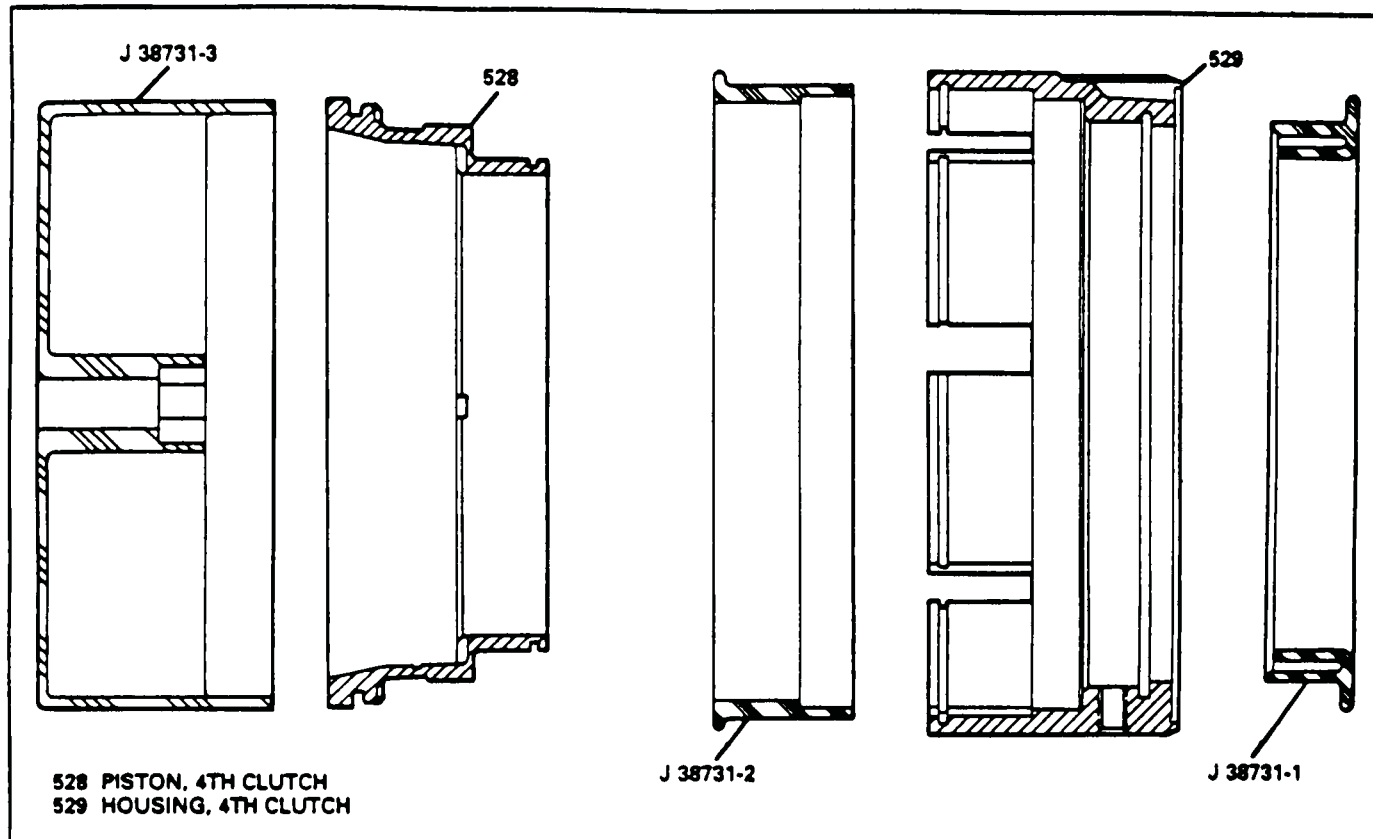

Figure 88
12. Place seal protector J-38731-1 into the small end of 4th clutch housing. (See Figure 88).
13. Place seal protector J-38731-2 onto the large end of the 4th clutch piston. (See Figure 88).